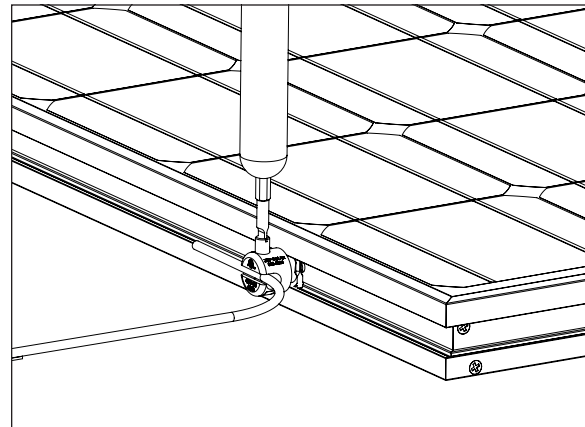

Figure 6.2D
4. Lay the solid copper ground wire into the Ground Wire Retention Slot and turn the Ground Wire Set Screw with a flat bladed screw driver until the wire is captured by the set screw (Figure 6.2D). Continue turning the set screw until the installation torque requirements of Table 6.2E are met.